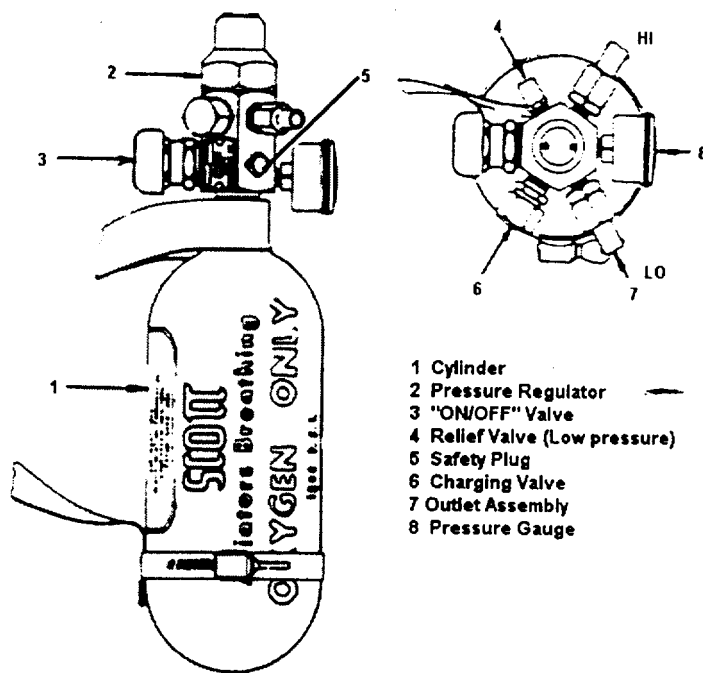

Figure 5-3 5500 Series Emergency Oxygen Bottle
The 5500 series (high-pressure) emergency oxygen bottle (see figure 5-3) provides a portable-breathing source. It contains an outlet assembly (7) for quick installation of the MF10-03-01 full-face quick donning mask. Additional information on the 5500 emergency oxygen bottle may be found in the Scott Maintenance Manual, 35-30-77.